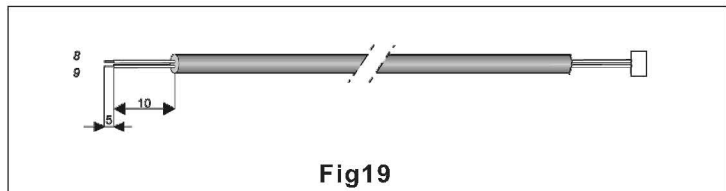

Fig19
- Prepare the twin wire cable end for connection as shown in fig.19.
- Disconnect the resistor (5) from the indoor unit twin wire cable (3) and connect the win wire cable (6) connector instead.
- connect the other end of the twin wire cable (6) to the outdoor unit twin wire terminal (9).